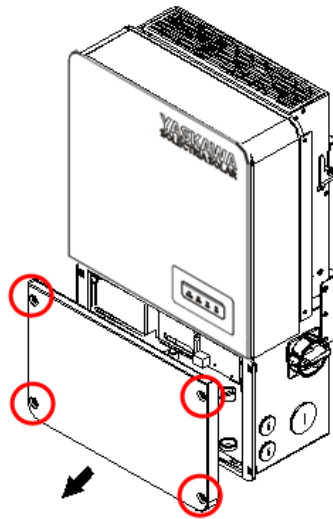

Figure 3-19 Remove Wire-Box Cover
Use a No. 3 Phillips-head screwdriver to remove the four (4) screws from the cover of the Wire Box as shown in Figure 3-19.